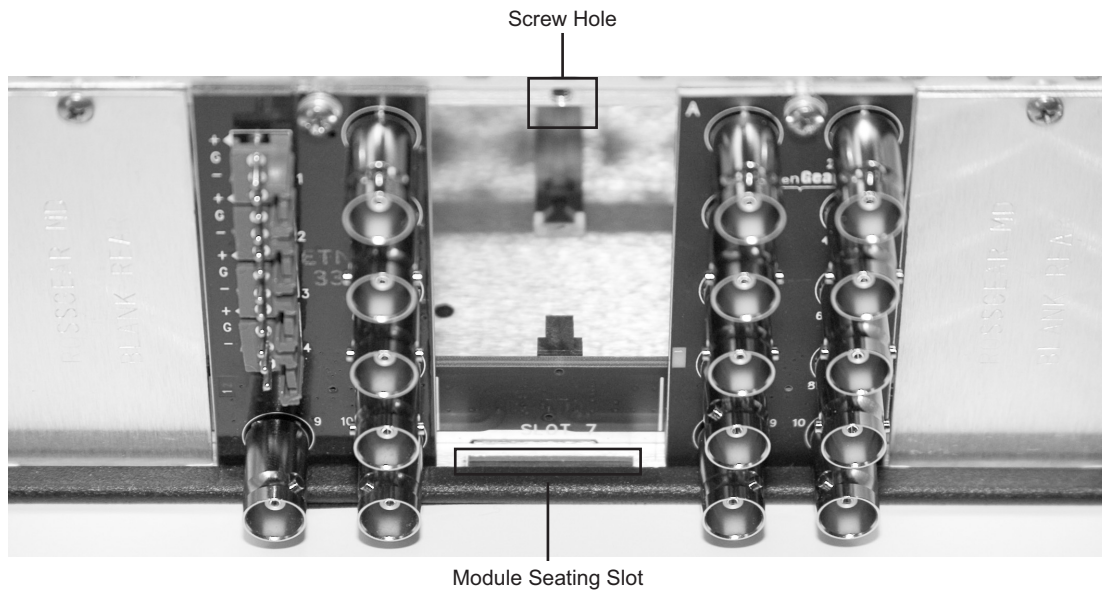

Figure 2.2 Rear Module Installation (FSE-8241 series not shown)
3. Install the bottom of the rear module in the **Module Seating Slot** at the base of the frame's back plane. (**Figure 2.2**)